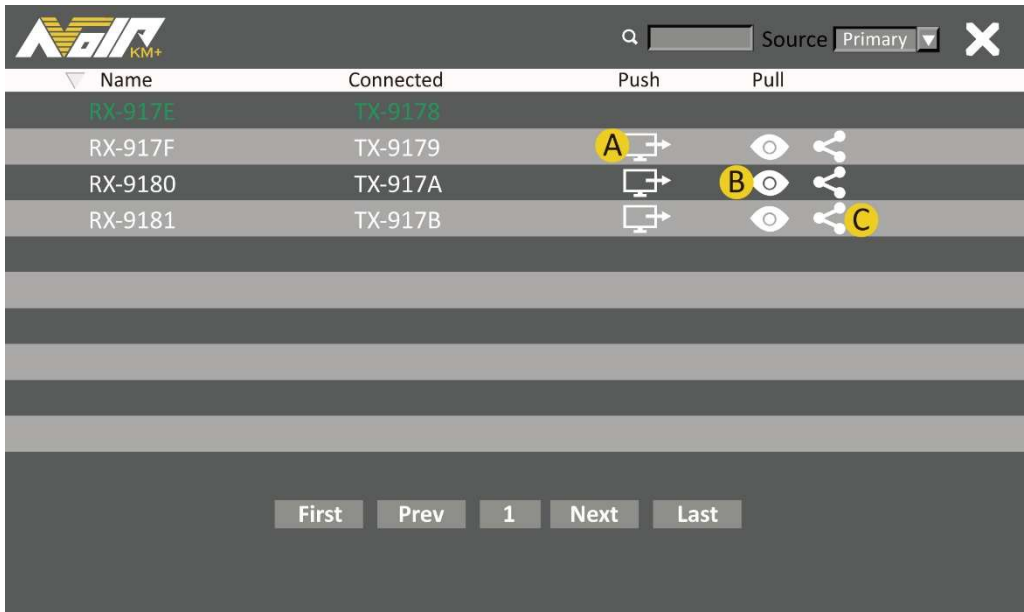

Figure 8-8 Console Collaboration Function
- (12) Click to open the Console Collaboration page, as shown in Figure 8-8.
- (13) Click to review the transmitter switching hotkeys that the administrator has set in the HX-143AVC web-based management interface **AVoIP Manager**. Each switching hotkey includes at least three keystrokes, such as **<ScrLk>**, **<ScrLk>**, **<Number Key>**. In addition to the default hotkey prefix key **<Scroll Lock>**, the user can also assign other preferred hotkey prefix keys (e.g., **Num Lock**, **Caps Lock**, **Left Alt**, **Right Alt**) on this page.
- (14) Click to log out of the OSD menu. The next time you press the default hotkey **<ScrLk>**, **<ScrLk>**, **<Space>** to bring up the OSD menu, you will need to enter the user credential again to access the RX unit's OSD menu.
- (15) Click to close the OSD menu.
- (16) Find a specific TX unit quickly by entering its name in this column.
Figure 8-8 shows the Console Collaboration Page for operating Console Resource PUSH/PULL Operation. Three examples (A), (B), and (C) are provided to explain the operation.
(11) Click to enter the Console Collaboration page, as shown in Figure 8-8.